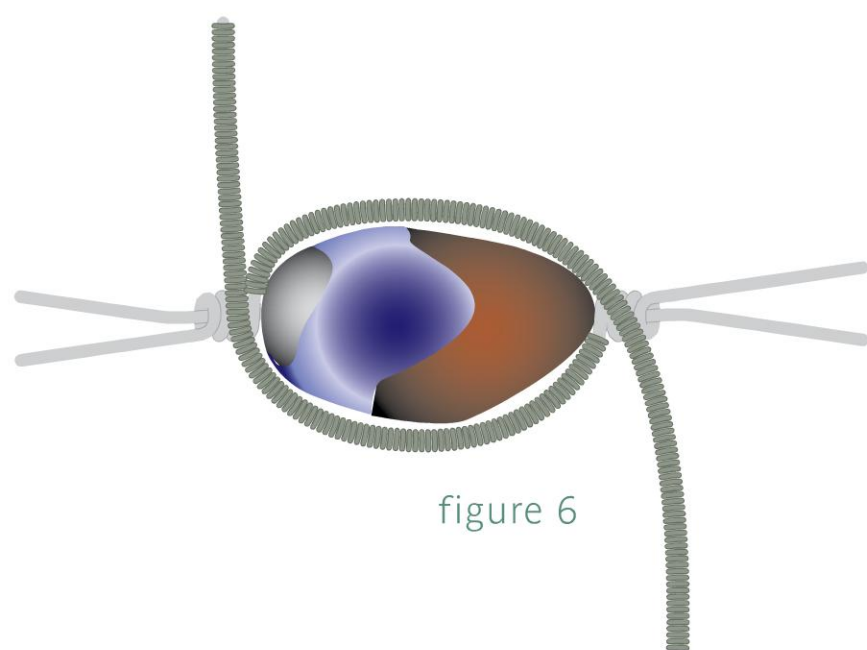

figure 6
- 1 3** Pull one of the 16-gauge wire tails over the top side of the focal bead, then pull the second tail under the bottom side (Figure 6).